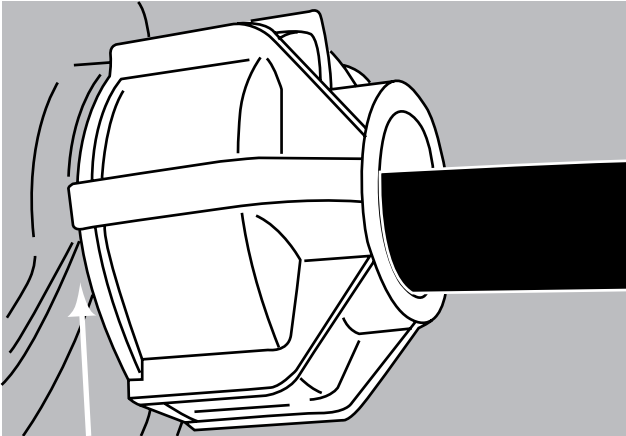

Figure 22
IMPORTANT NOTE: For express Cable, tighten using procedure described and shown in figure 22.
22. Evenly tighten both express locking caps with alternating 2/3 turns on each side until both locking caps are tight against the end plate and wedge grommet. (Figure 22)